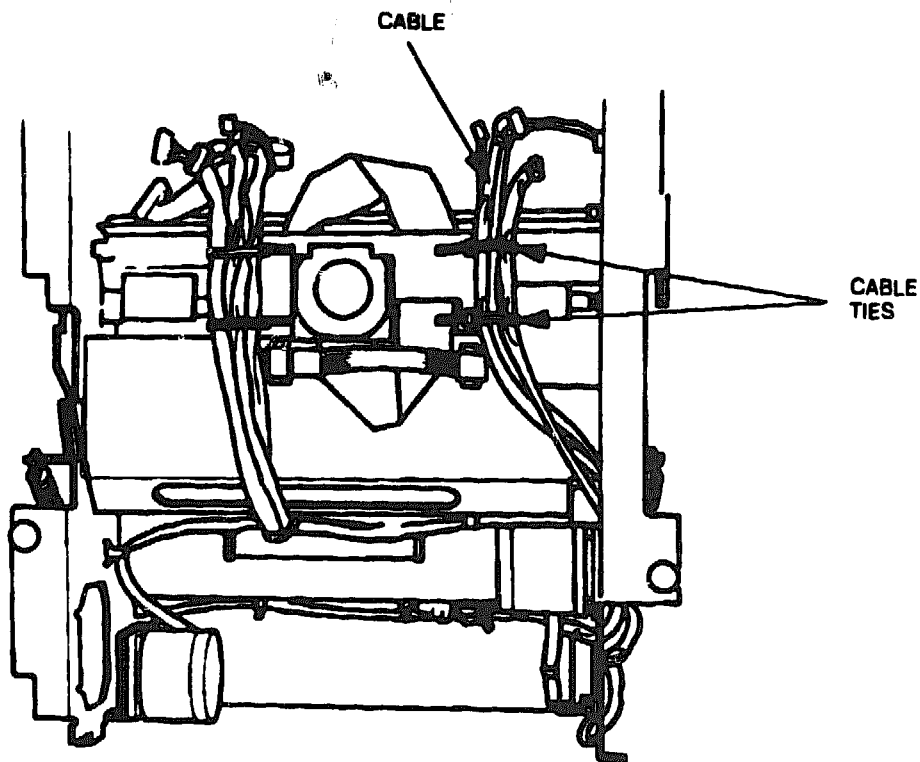

Figure 6-84 Lower Base Plate Cable Ties
5. Close the upper unit and place the mechanism unit on its side on the worktable to access the bottom of the unit (see Figure 6-84).
6. Remove the cable from the two cable ties on the lower base plate (see Figure 6-84). Then remove the lift sensor subassembly.